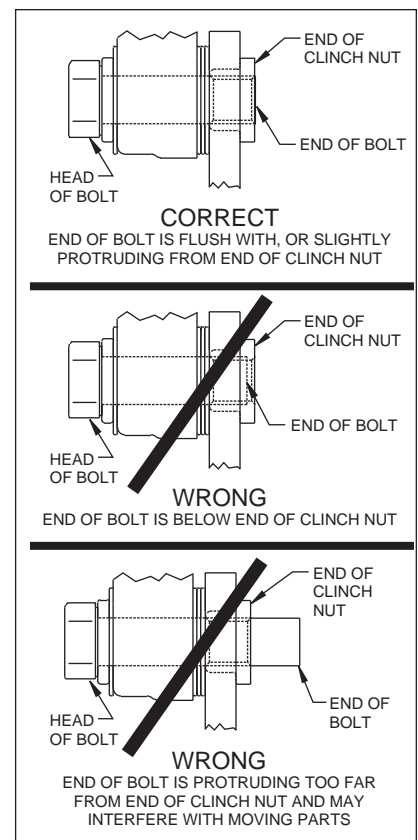

Figure 4.
- Install the dust cap (15) onto the hub (7). Friction created by the o-ring (16) on the dust cap (15) keeps it from unscrewing. The O.D. of the existing spindle washer may be larger than the I.D. of the dust cap (15) not allowing it to seat against the hub face. Some grinding on the washer O.D. may be necessary to clear the I.D. of the dust cap (15).
- **NOTE:** Please reference the caution statement at the beginning of the assembly instructions. Mount the caliper (17) onto the caliper bracket (1) using washers (18) and bolts (19). Finger tighten. View the rotor (11) through the top opening of the caliper (17). The rotor (11) should be aligned in the center of the caliper (17). If not, adjust the caliper (17) by using 0.032 inch thick shims (20) placed between the caliper mounting bracket (1) and the caliper (17). Finger tighten and recheck alignment. Use as many shim washers (20) as necessary to achieve the correct alignment. Add as many shim washers (20) as necessary to achieve the correct alignment. **NOTE:** The end of the bolt must be flush with or slightly protruding from the head of the clinch nut. See Figure 4. Place spare shims (20) between washer and caliper mounting ear to achieve the proper mounting fastener configuration. Always use the same amount of shims on both the top and bottom caliper mounting bolts (19). Apply red Loctite® 271 to bolt threads (19) and torque to 40 ft-lb. Caliper mount bolts may be safety wired for additional security.
- Install the disc brake pads (21) and secure using cotter pin (22).